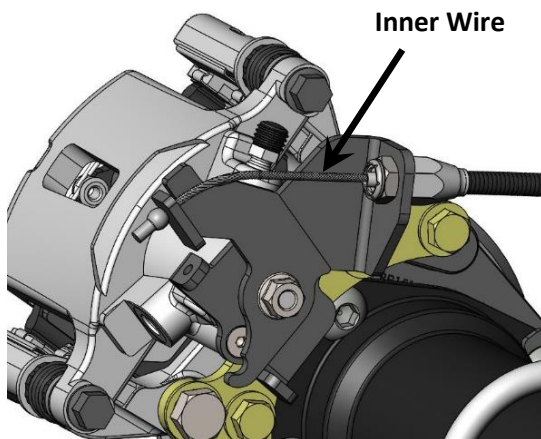
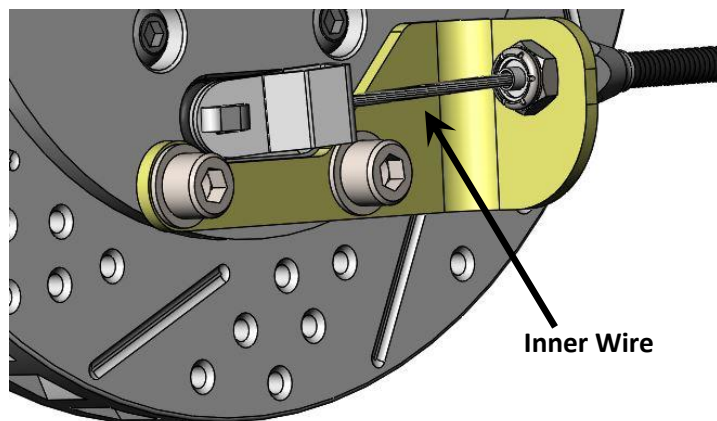

Figure 3a - Inner Wire Installed (ALL Legend Series Rear Disc Brake Kits)
Figure 3b - Inner Wire Being Installed (ALL Pro Driver Rear Disc Brake Kits)
6. Insert the Inner Wire through the park brake lever and guide it through the Cable Housing on **ALL** Legend Series Rear Disc Brake Kits. On **ALL** Pro Driver Rear Disc Brake Kits, the Inner Wire needs to be fed through the Pro Driver Attachment Clips before the Inner Wire is inserted into the Cable Housing. See Figure 3a on the next page for reference on attachment to Legend Series Rear Disc Brake Kits. See Figure 3b on the next page for reference on attachment to Pro Driver Rear Disc Brake Kits.